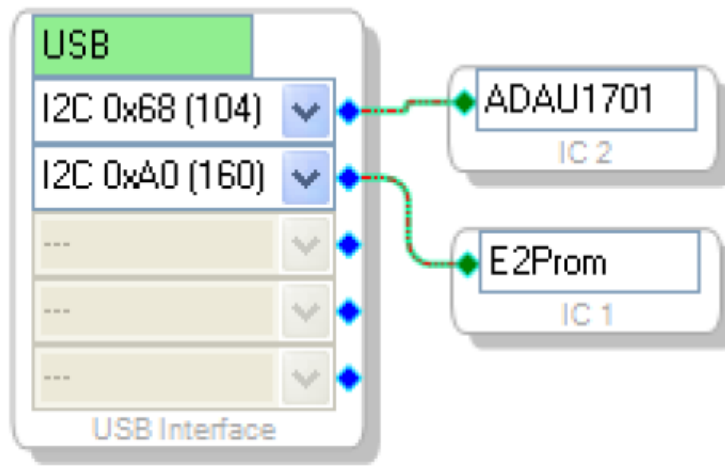

Figure 1
- If the underpainting of the “USB” turns green, it represents the ICP5 is successfully recognized. See figure 1.